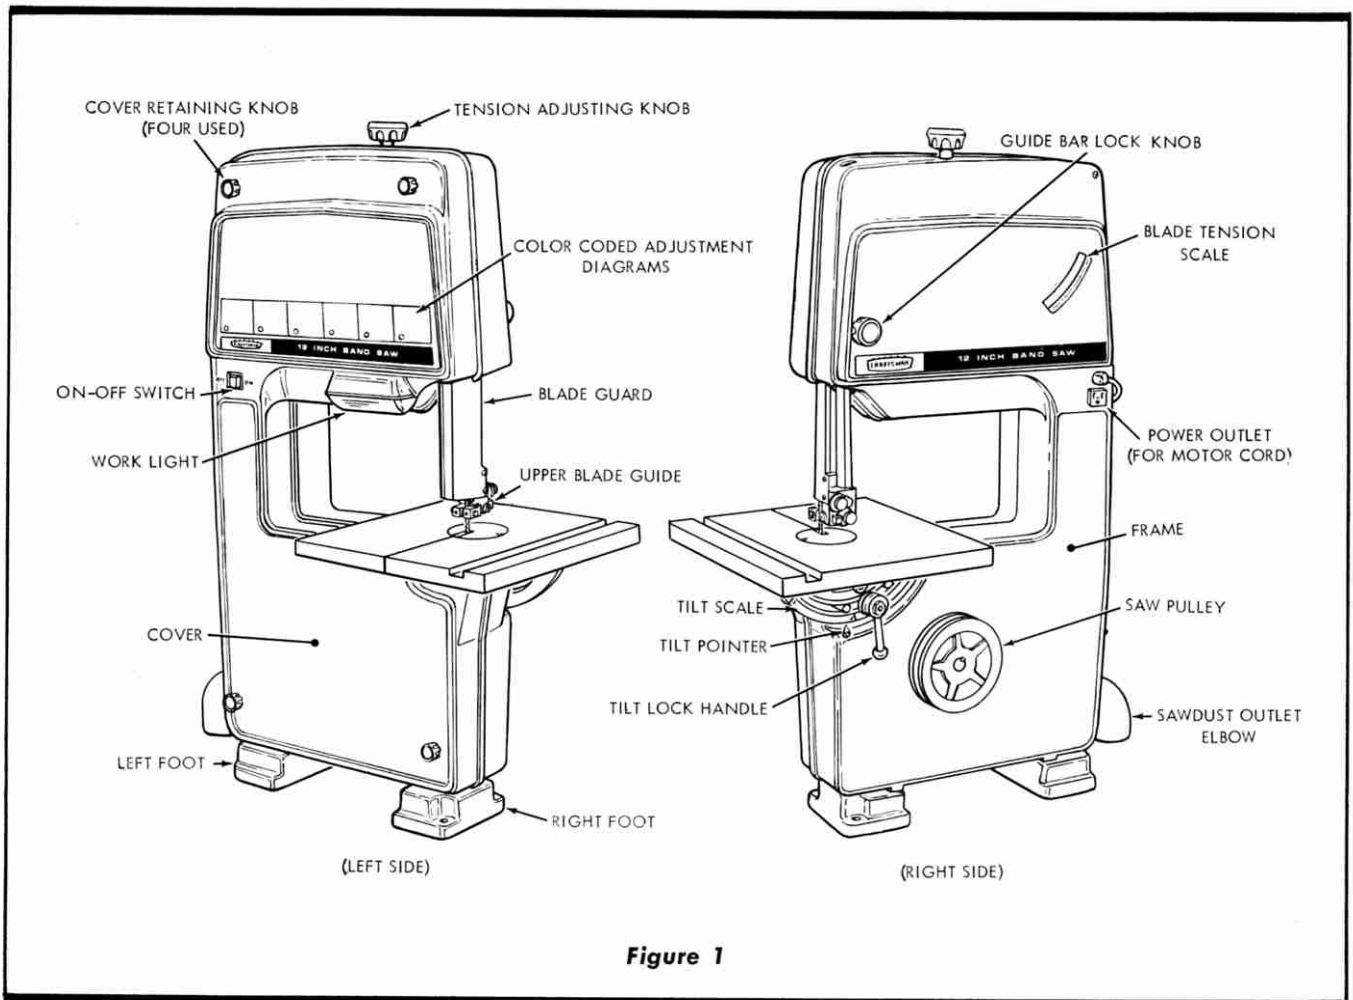

Figure 1
1. **BAND SAW WIRING.** A single three-wire power cord emerges from the saw frame through a molded strain relief. (See figure 1.) Mounted in the saw frame are three components as follows: (See figure 2.)
1. Remove the four cover retaining knobs and slide the cover carefully off the studs (See figure 1).
1. **BLADE TENSION.** Correct blade tension is accomplished by rotating the tension adjusting knob (figure 1) while watching the blade tension scale on right-hand side of saw. Markings on the scale are "1/2", "3/8", "1/4", "1/8", and "SANDING". These indications represent the width of the blade being used. Thus when using a 1/2-inch blade, the pointer should be set to "1/2", a 1/4-inch blade to "1/4", etc. When using a sanding belt on the saw, rotate the tension adjusting knob until the pointer is aligned with the mark labeled "SANDING".
- g. Grasp the saw pulley (figure 1) and rotate it counterclockwise (when facing pulley) several times to "spin" the wheels and make sure the blade remains in its normal tracking position.